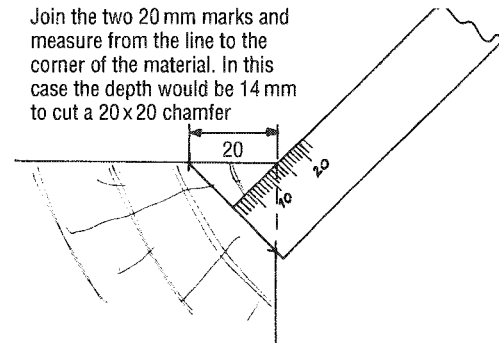

Fig. 3.42 Measuring angles for depth of cut.
4. Set the front table to the depth of cut. This is not as simple as it is for rebating. The exact depth has to be found by measuring the material as shown in (**Fig. 3.42**).